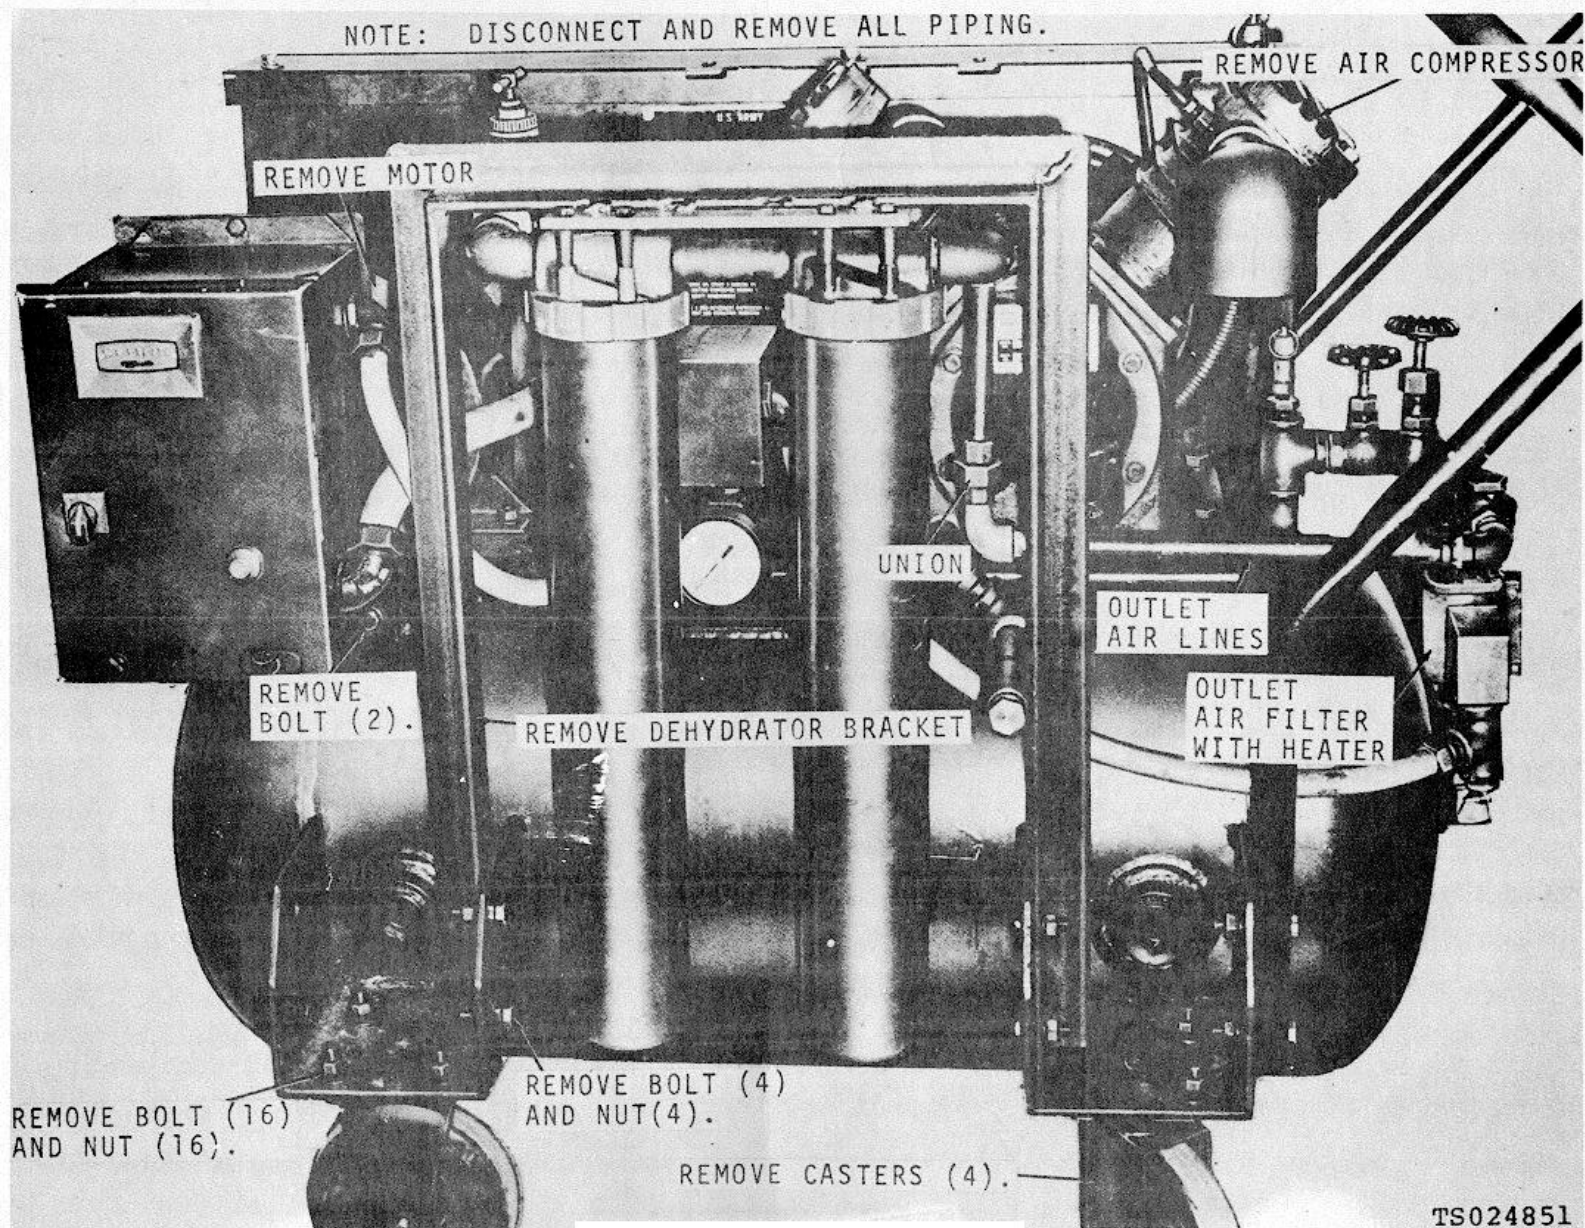

Figure 6-9. Air receiver, removal and installation.
(1) Shut off all power at source and lock it out.
(2) Drain the air receiver (para 3-14).
(3) Disconnect the outlet air piping to dehydrators, remove mounting hardware and remove the dehydrators with bracket (fig. 6-9).
(4) Position bracket with dehydrators on receiver and secure with mounting hardware.
(5) Connect air line components to dehydrators.
(6) Close air receiver drain.
(7) Energize power source.
(1) Shut off all power at source, and lock it out.
(2) Refer to figure 6-9, break the outlet air line at union, then remove air line components back to the out- let air filter.
(3) Tag and disconnect electrical leads to junction box of heater.